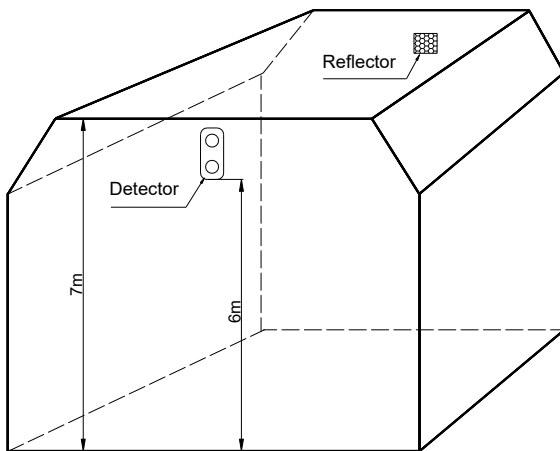

Fig.5
- b) As the space height is between 5m and 8m, the detector and reflector/s should be mounted on the walls which are opposite, having about from 0.5m to 1m from the ceiling. Refer to Fig. 5.